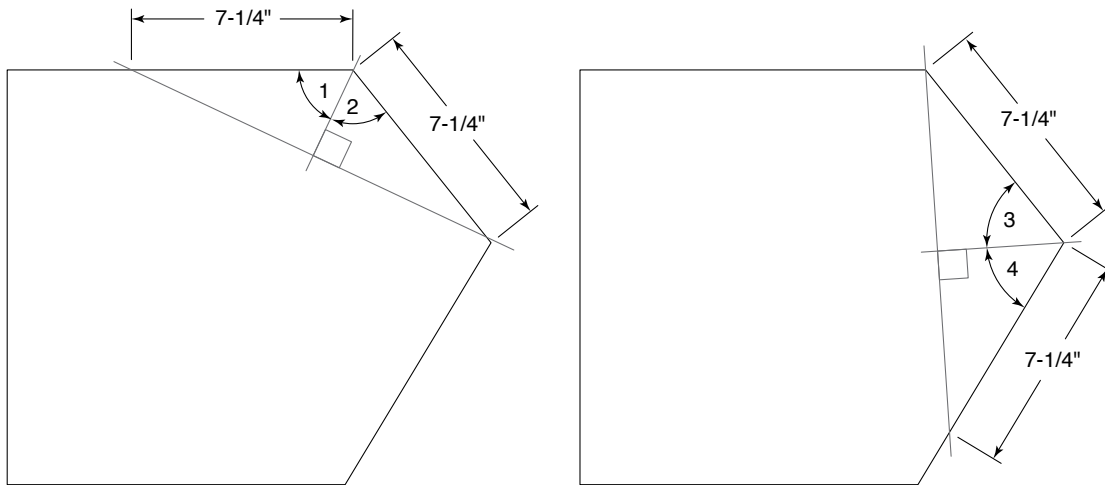

FIG 7. AFTER APPLYING GLUE, CLAMP THE BIN PIECES TOGETHER AS SHOWN.
19. To assemble the pieces, apply glue to the meeting edges and lightly clamp them all together as shown in Fig. 7. Position the clamps so you'll be able to shoot in 18-gauge brads at the ends and in between. Start with the sides, bottom and back, and finish with the top and front. Scrape off excess glue after a few minutes.